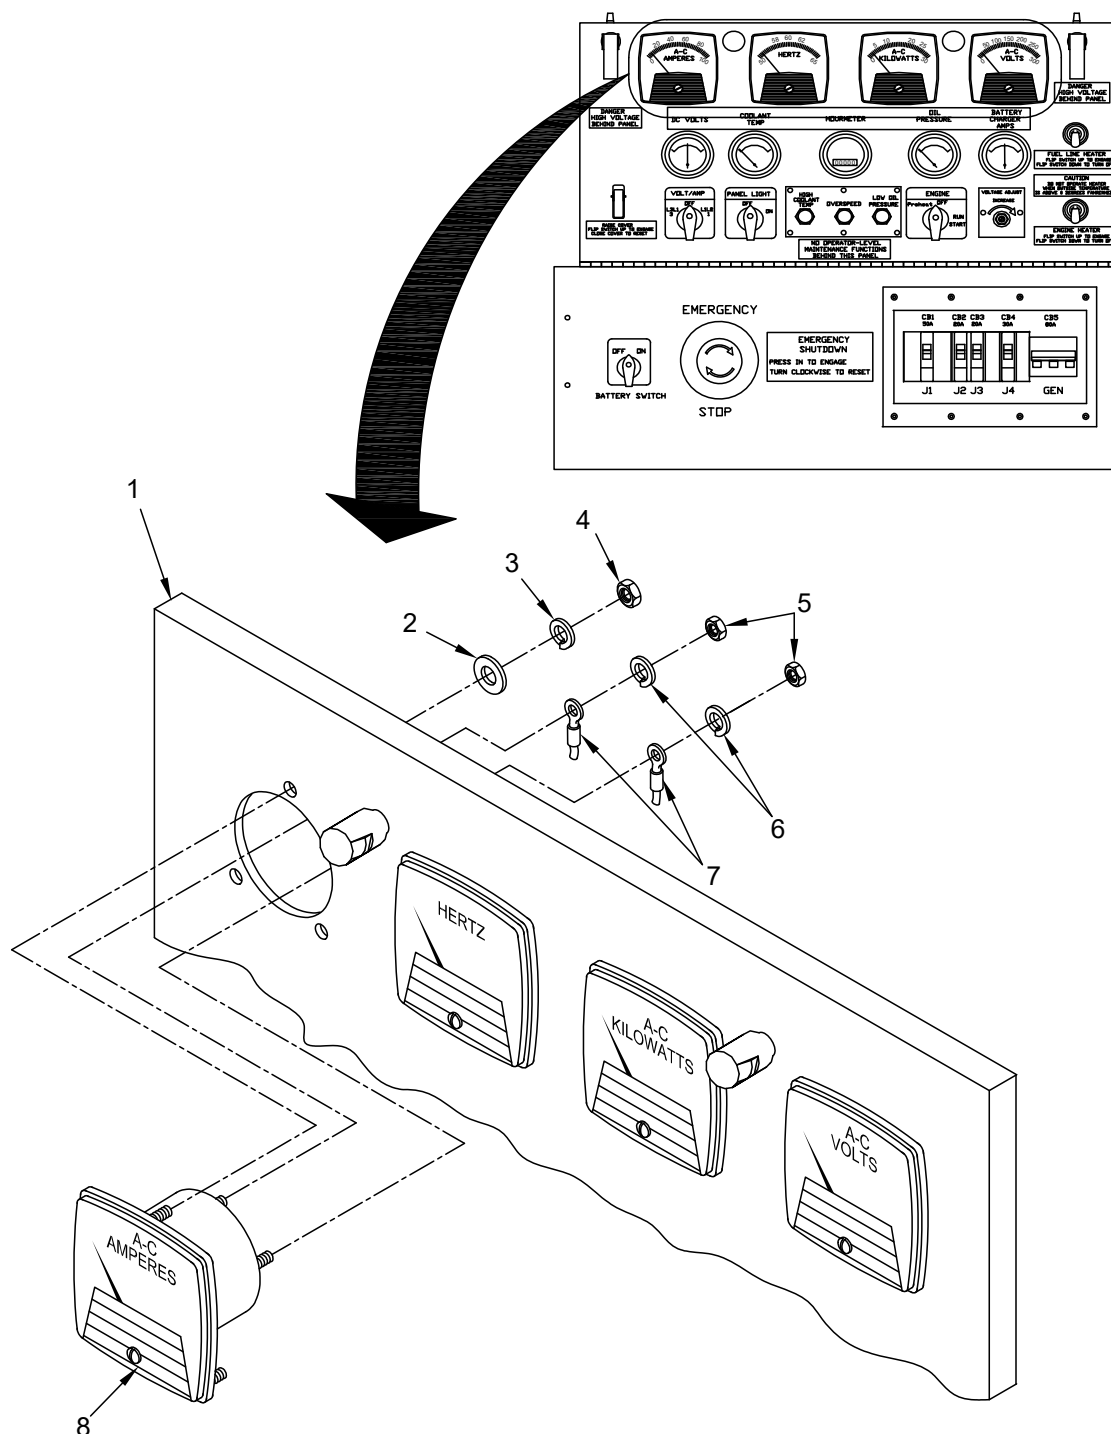

Figure 1. Meter Removal/Replacement.
5. Remove and retain two nuts (Figure 1, Item 5) and lock washers (Figure 1, Item 6) that secure terminals (Figure 1, Item 7) to meter (Figure 1, Item 8).
6. Mark and disconnect terminals (Figure 1, Item 7) from meter (Figure 1, Item 8).
7. Remove and retain three nuts (Figure 1, Item 4), lock washers (Figure 1, Item 3) and flat washers (Figure 1, Item 2) that secure meter (Figure 1, Item 8) to control panel (Figure 1, Item 1).
8. Remove meter (Figure 1, Item 8) from control panel (Figure 1, Item 1).
1. Insert meter (Figure 1, Item 8) into control panel (Figure 1, Item 1).
2. Secure meter (Figure 1, Item 8) to control panel (Figure 1, Item 1) using three flat washers (Figure 1, Item 2), lock washers (Figure 1, Item 3) and nuts (Figure 1, Item 4).
3. Connect terminals (Figure 1, Item 7) to appropriate connections on meter (Figure 1, Item 8) (See Table 1).
4. Secure terminals (Figure 1, Item 7) using two nuts (Figure 1, Item 5) and lock washers (Figure 1, Item 6).
7. Observe readings on meter (Figure 1, Item 8). If readings are not correct proceed to adjustment procedure.